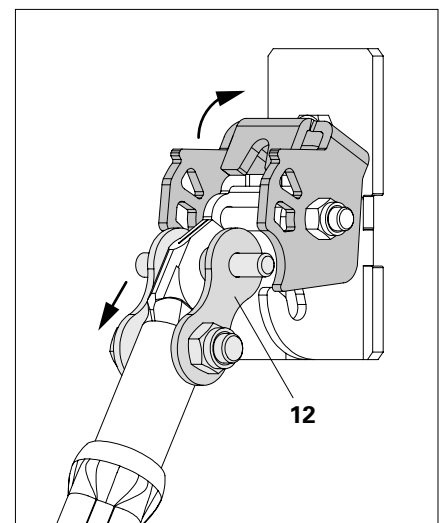

Fig. A7.08
2. Detach the Adaptor Quick Connector RS (12). (Fig. A7.08)